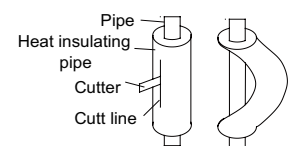

Fig.9
- (4). When bending the pipe, do not bend it as is. The pipe will be collapsed. In this case, cut the heat insulating pipe with a sharp cutter as shown in Fig.9, and bend it after exposing the pipe. After bending the pipe as you want, be sure to put the heat insulating pipe back on the pipe, and secure it with tape.